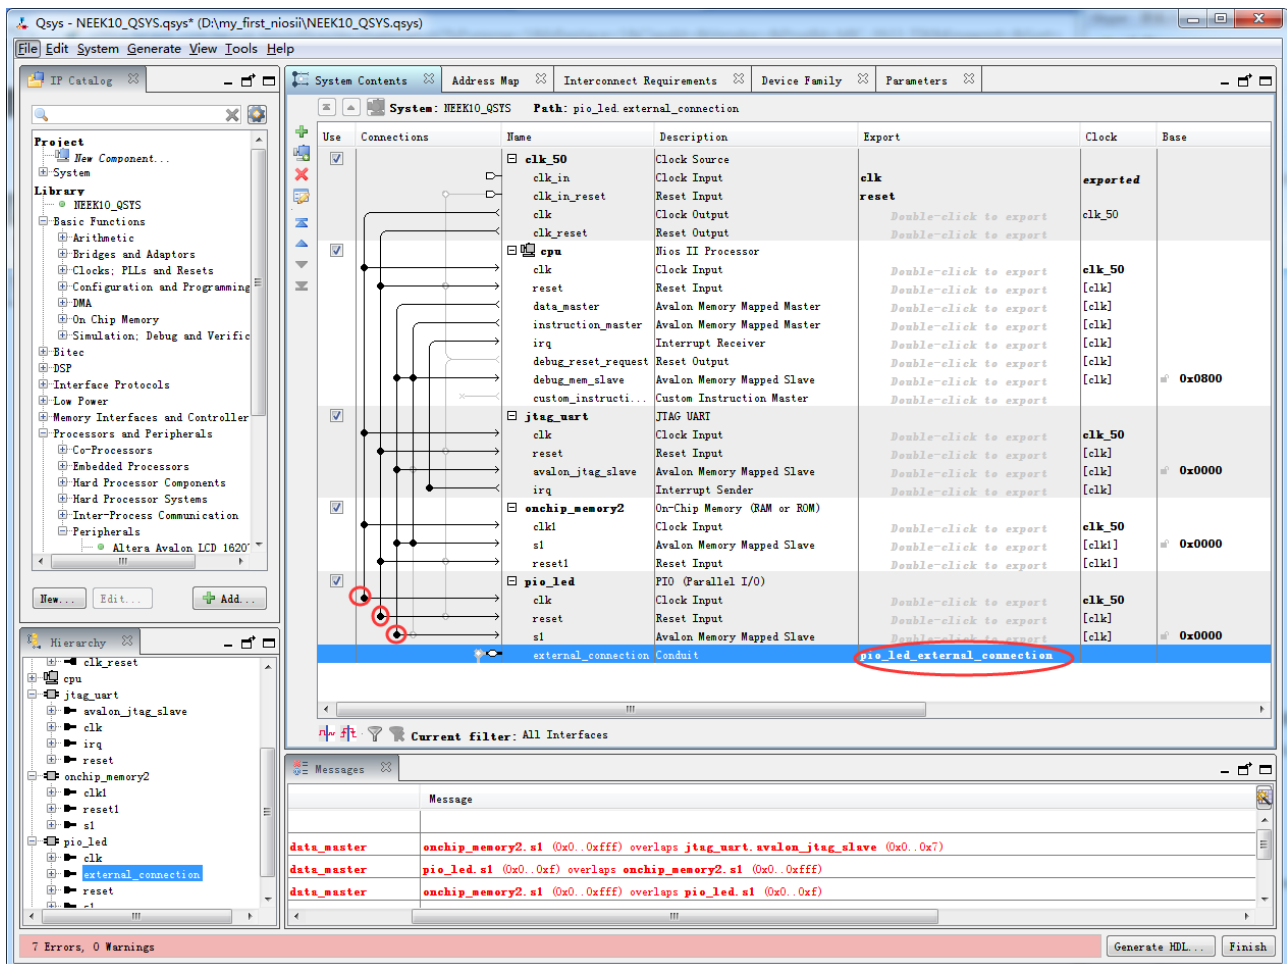

Figure 1-29 Connections and changes of PIO
21. Rename **pio_0** to **pio_led** and connect its **clk** and **reset** to the **clk** and **clk_reset** of **clk_50**. Its **s1** is connected to the **data_master** of **cpu**, **reset** to **clk_reset** of **clk_50**. Double click the **Export** column of **external_connection** to export the signal “**pio_led_external_connection**”. **Figure 1-29** shows the complete connections and changes.